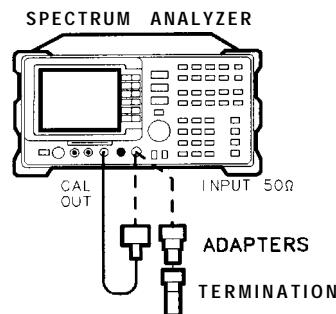

Figure 2-68. Displayed Average Noise Level Test Setup
1. Connect a cable from the CAL OUT to the INPUT 50  $\Omega$  of the spectrum analyzer as shown in Figure 2-68.
**MKR FCTN**) MK TRACK ON OFF (ON)